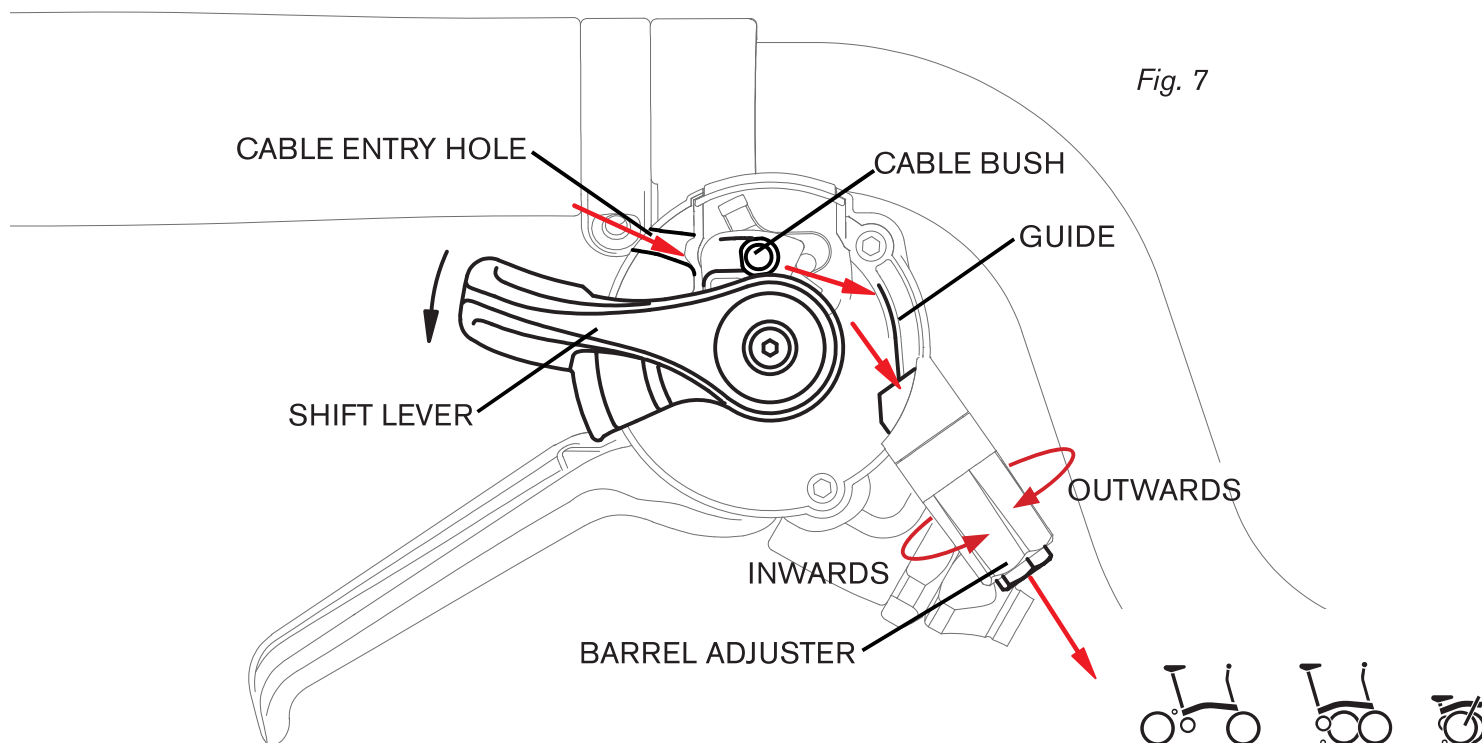

Fig. 7
To add tension lost due to cable stretch, place the bike in a stand. Unscrew the barrel adjuster (fig. 7) outwards a quarter turn at a time, each time pedalling the bike whilst listening for the reduction of noise. A visual check can also be done to insure that the jockey wheel on the derailleurs is aligned with the selected sprocket on the cassette. If the bike is failing to reach the largest sprocket this means that too much tension has been added and screw the barrel adjuster inwards to remedy this issue. (fig. 7). If this doesn't fix the original issue, change to the smallest sprocket on the cassette, then loosen the bolt holding the cable in place on the inside of the derailleur (fig. 4,5). Use a small pliers to pull the inner cable IC end to increase the cable tension and then tighten the bolt RS (fig. 5).
- Use the barrel adjuster on the shifter to make adjustments to the cable tension as needed (fig. 7)
- Unscrewing the adjuster will add more tension to the cable and improve shifting into the lower gear (fig. 7)